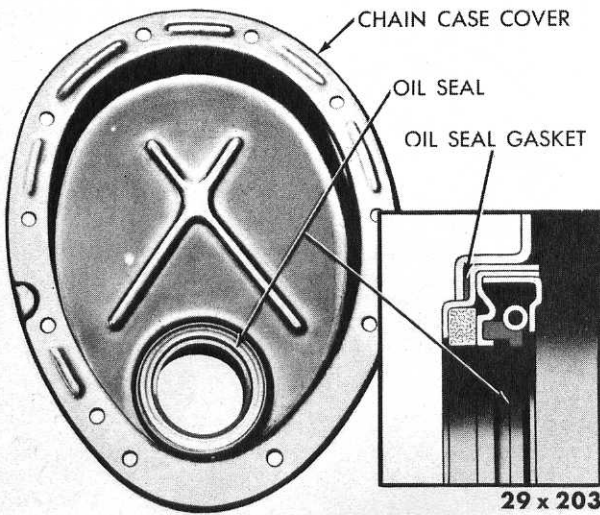
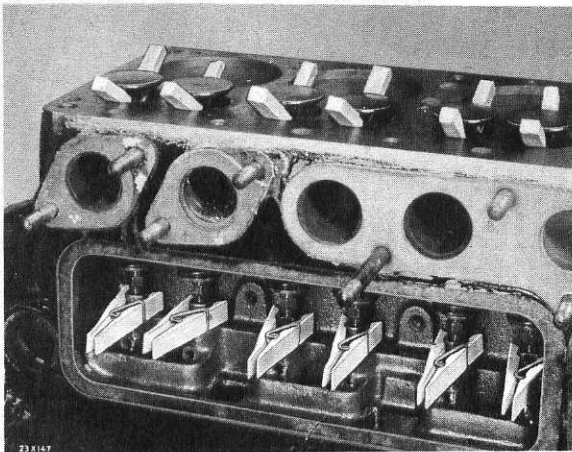

Fig. 21—Chain Case Cover Oil Seal
Fig. 22—Holding Up Valves and Tappets for Camshaft Removal (Except B-4-R, B-4-T, B-4-V and B-4-Y)
- (2) Remove the radiator shell, core and fenders as an assembly.
- (3) Remove the cylinder head.
- (4) Remove the fuel pump, oil pump and valve tappet cover plates.
- (5) Remove the crankshaft pulley.
- (6) Support the front end of the engine. Remove the front motor support and timing chain case cover, being careful not to damage the oil seal (Fig. 21). Remove the camshaft sprocket and timing chain or gear.
- (7) Raise the valves. Hold them in position by inserting two wooden wedges under each valve head (at opposite points) to prevent cocking or warping of the valve head. This operation is not required if the valves are being ground, since the valves and springs will be removed.
- (8) Lift the valve tappets and hold them in place with spring type clothes pins (Fig. 22) or similar tools.
- (9) Then, remove the camshaft, rotating it as it is drawn out so that the cams will clear any obstacles. Press off the sprocket hub and thrust plate in an arbor press. If the valve tappets are to be replaced,